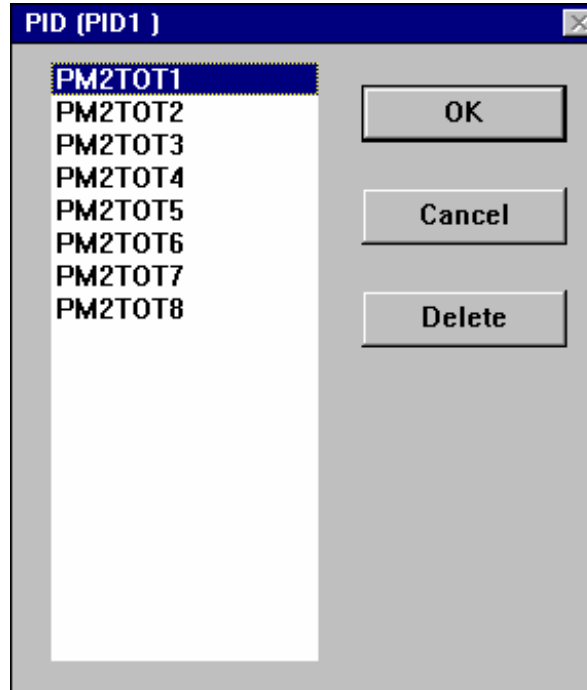

Figure 6-7: Valid Outputs Window Example
5. Highlight the desired configuration module and click OK. A window listing all valid module outputs appears (Figure 6-7).